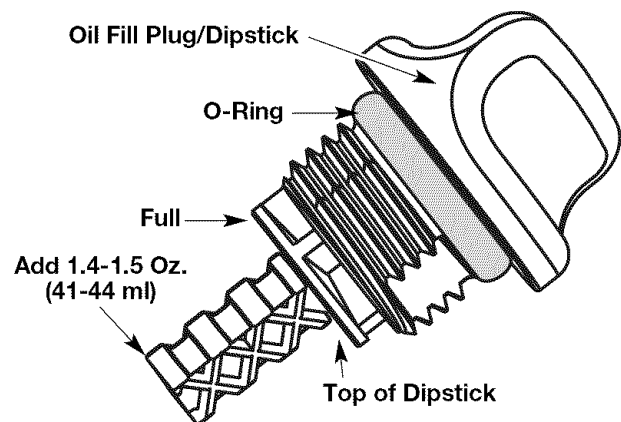

Fig. 15
- Remove the oil fill plug/dipstick and check the oil level. Oil should be up to the top of the dipstick (Fig. 15).